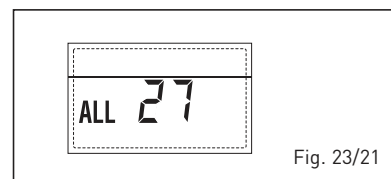

Fig. 23/21
– **ANOMALIA COERENZA INGRESSO (S3) SOLO PER IMPIANTO 7 “ALL 28”** (fig. 23/22)